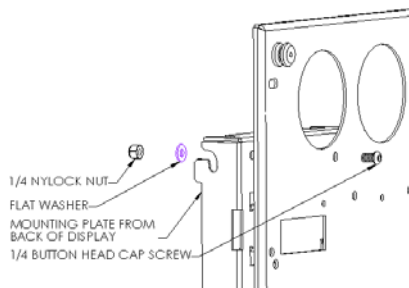
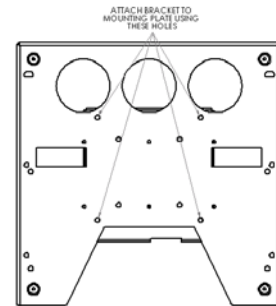

Figure 4
Figure 5
3. Align hole pattern on brackets with pattern on back of plate (see Figure 4 & Figure 5) and attach bracket using the 1/4-20 screws, washers and Nylock nuts.